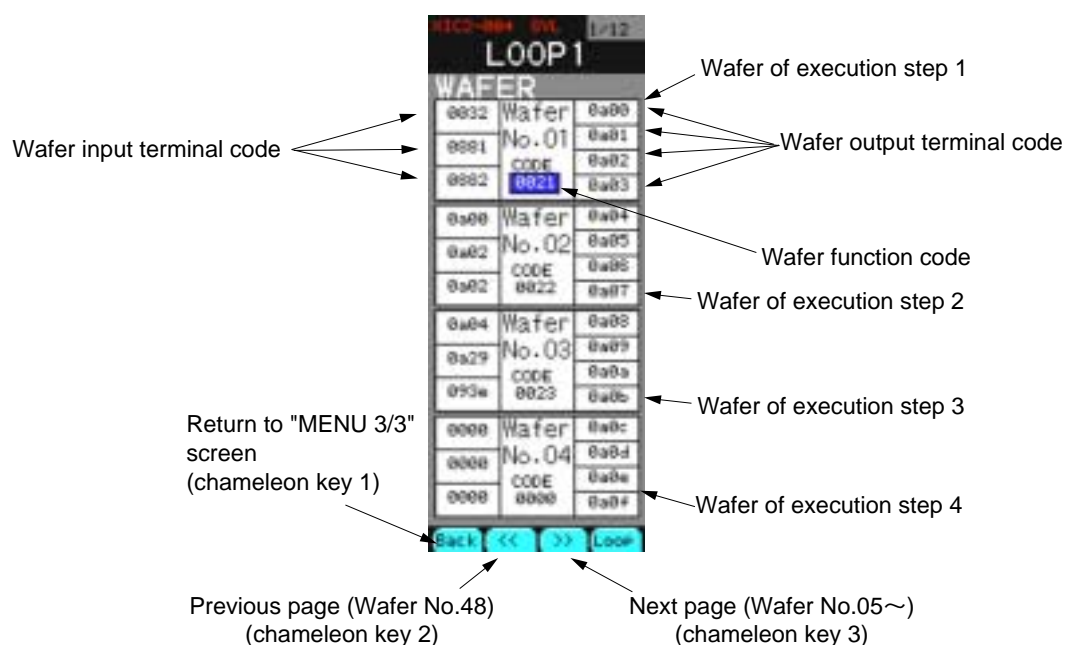

Fig. 4-8 Wafer connection screen
- ② Press “▼” key (chameleon key 2) repeatedly until the blue cursor moves to “WAFER CONNECT”.
- ③ Press the “Sel” key (chameleon key 4) to transfer to the wafer connection screen (Fig. 4-8).